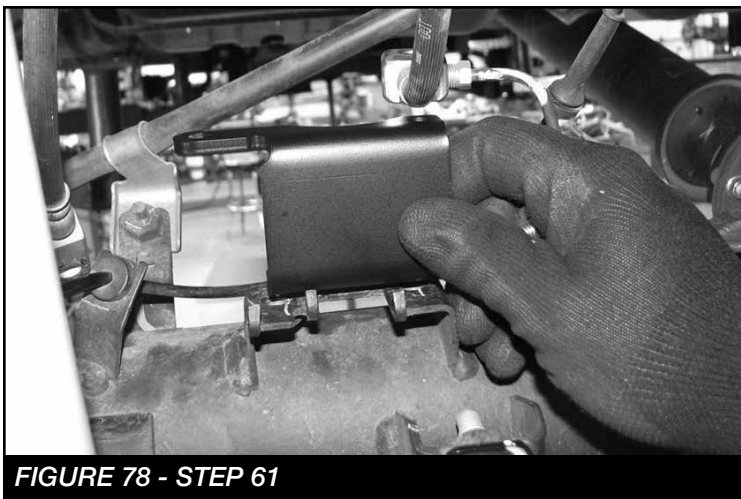

FIGURE 78 - STEP 61
61. Install FT60089 (Rear Brake line bracket) to the axle tube using the supplied M8 hardware. Next, install the brake line unions to the new bracket using the supplied 5/16" hardware. **SEE FIGURE 78.** Torque M8 and 5/16" hardware to 29 ft-lbs.